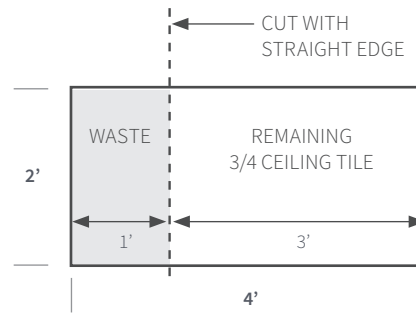
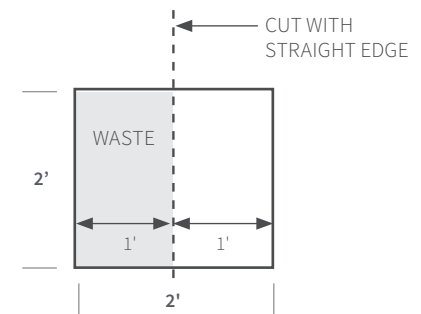

FIGURE 2:
FIGURE 4:
3. Using a straight edge, cut a 1' x 2' section from the ceiling tile, leaving a 1' x 2' section and a 2' x 3' section (Figure 2), or two 1' x 2' sections (Figure 4).